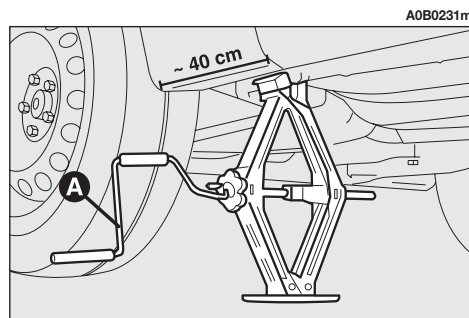
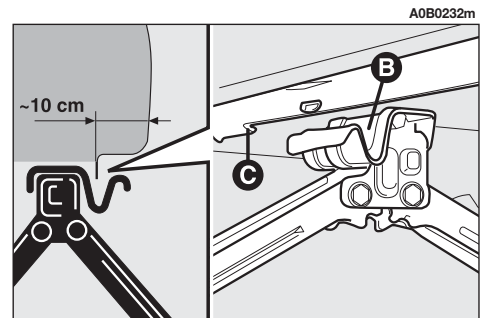

fig. 5
fig. 6
- Work the jack crank (A-fig. 5) to extend it until the groove (B-fig. 6) on the upper part of the jack is correctly inserted on the lower profile of the body (C-fig. 6) at about 40 cm from the profile of the wheelhouse.